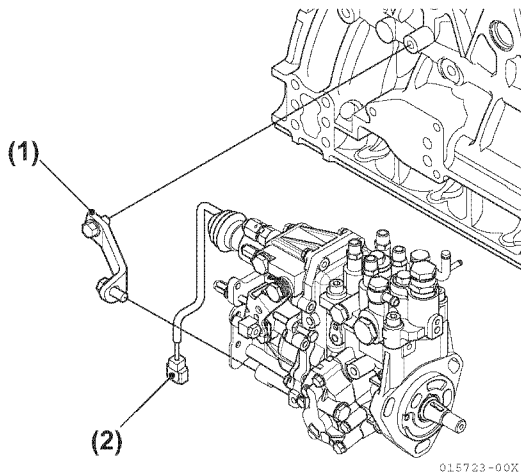

Figure 6-55
11. Separate the stop solenoid wiring connector (Figure 6-55, (2)).
12. Remove the rear fuel injection pump bracket (Figure 6-55, (1)) from the fuel injection pump.